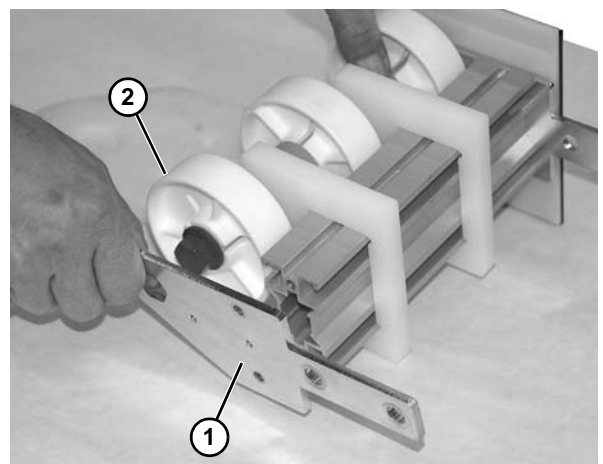

Figure 81
7. Remove idler backing plate (Figure 81, item 1) from assembly.
8. Remove idler spindle (Figure 81, item 2) from assembly.